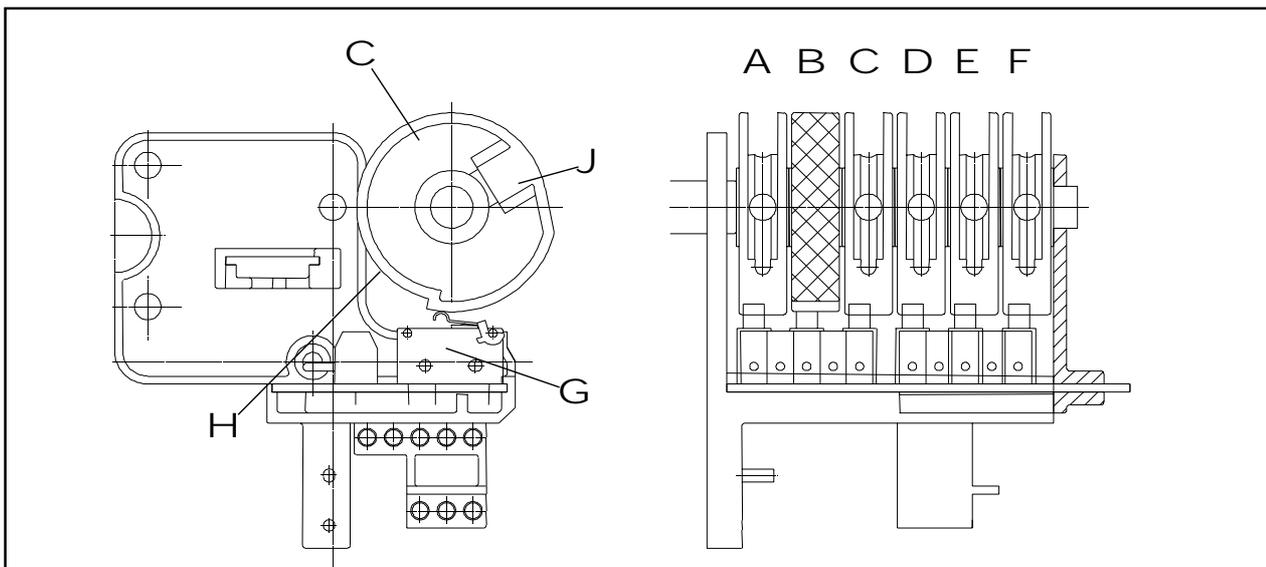

Fig. 12: Setting the reference point
3. Release the stop (grub screw J) of control cam (B).
4. Set control cam (B) in such way, the the reference point switch (G) is actuated as shown in fig. 12 (position H), (approx. 2 angular degrees from switch point).
5. Fix control cam (B) by screwing on grub screw (J).
7. Connect to mains and actuate button CLOSE DOOR (12).